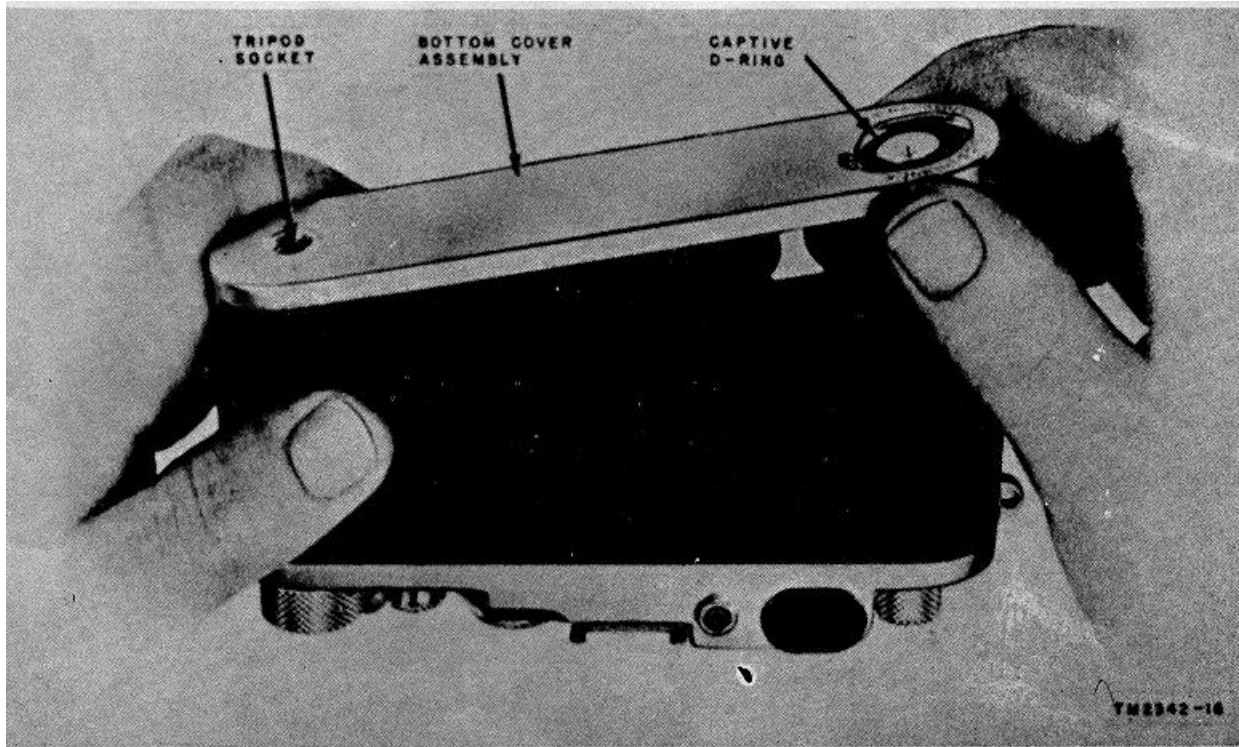
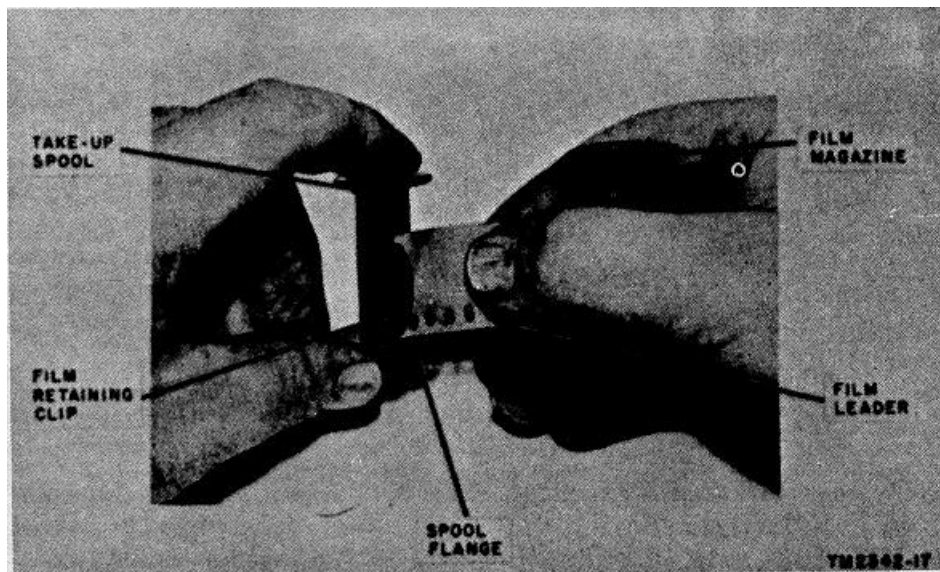

Figure 17. Removing bottom cover assembly.
Figure 18. Engaging film on takeup spool.
a. *Removing Bottom Cover Assembly* (fig. 17).
- (1) Place the camera with the bottom cover assembly up. Rotate the captive D-ring counterclockwise to the OPENAUF (KS15(1)) or AUF (AN/GFQ-2) position.
- (2) Pull up on the captive D-ring and disengage the bottom cover assembly from the stud on the left side of the main section of the camera. Remove the bottom cover assembly.
c. *Engaging Film on Takeup Spool* (fig. 18).
- (1) Hold the takeup spool in the left hand and the film magazine in the right hand (knurled knobs down). Push the end of the film leader as far as it will go under the film retaining clip on the takeup spool. The sprocket hole edge of the film leader should squarely contact the spool flange. Check the film leader on the takeup spool to be sure it is firmly anchored.
- (2) Withdraw the film leader from the film magazine until two sprocket holes are visible on the trimmed edge of the film.
- (3) Engage the opening on the film of the bottom cover assembly (fig. 17) with the stud on the side of the camera. Fit the bottom cover assembly on the camera.